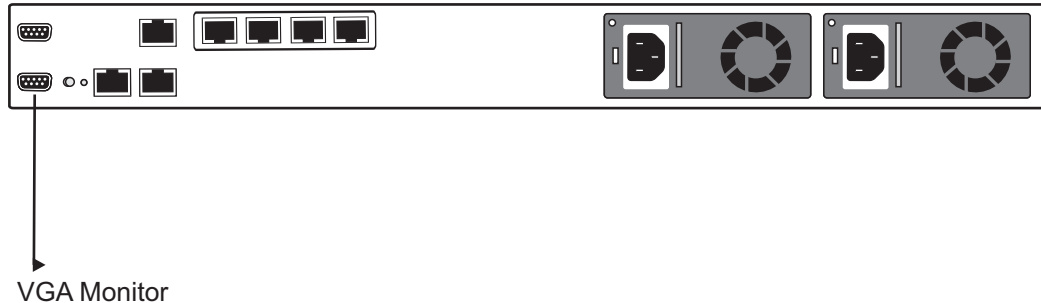

Figure 9.4 USB to DB9 Adapter
1. Connect a VGA monitor to the VGA port of the 7800-CTRL. Connect a USB keyboard to an available USB port on the 7800-CTRL. Do the same for a USB mouse. See figure 9.4 on page 62.